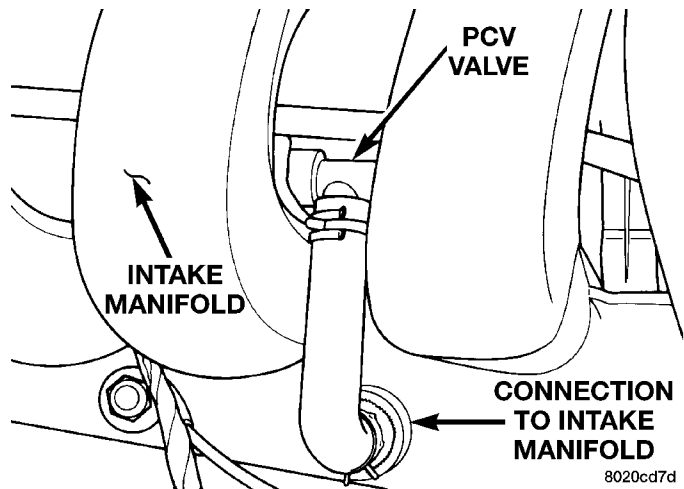

Fig. 82 PCV Vacuum Nipple
- (1) Turn ignition key to Off.
- (2) Disconnect the PCV valve hose from the intake manifold nipple (Fig. 82). Cap the PCV vacuum nipple.